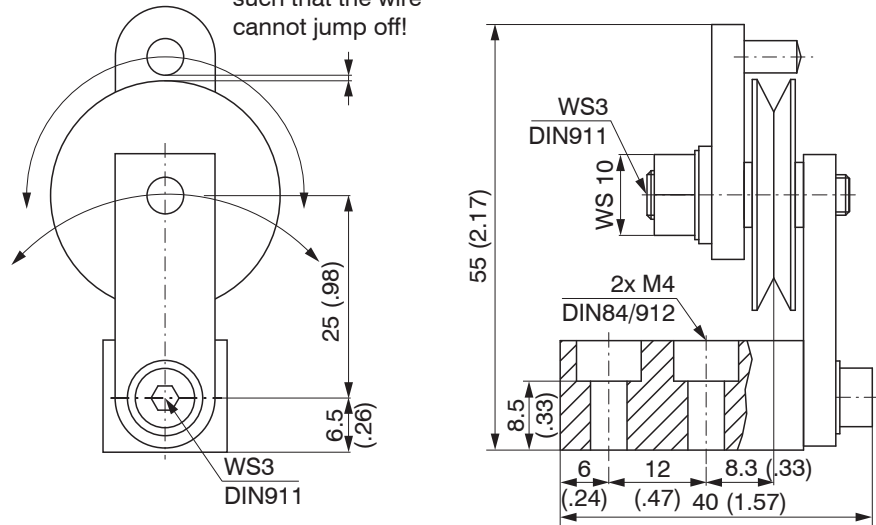

Fig. 8 Guide pulley TR1-WDS with mounting socket, dimensions in mm (inches), not to scale
- TR1-WDS Guide pulley with mounting socket, see Fig. 8